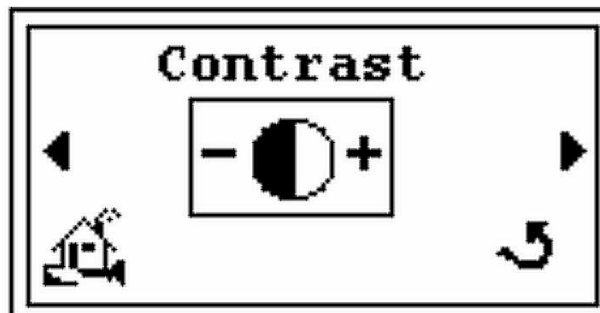

Figure 2-41 Contrast - Initial Screen
4. Press the ► and the *Contrast* screen appears (Figure 2-41).